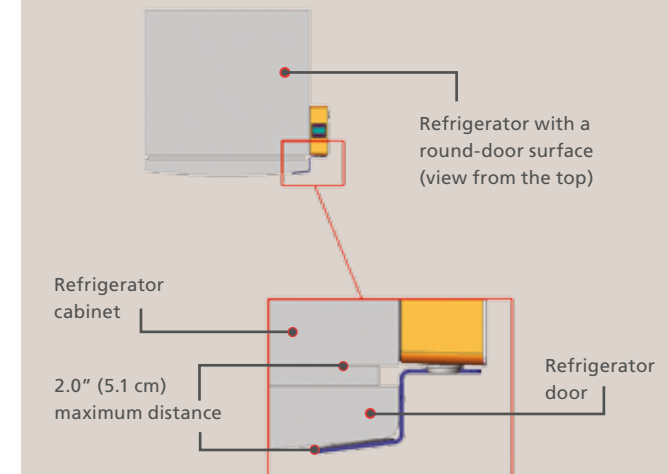

Figure 4. Distance from the refrigerator door to the refrigerator cabinet, round-door surface
- 2.0" (5.1 cm) for refrigerators with round-door surfaces (see Figure 4)